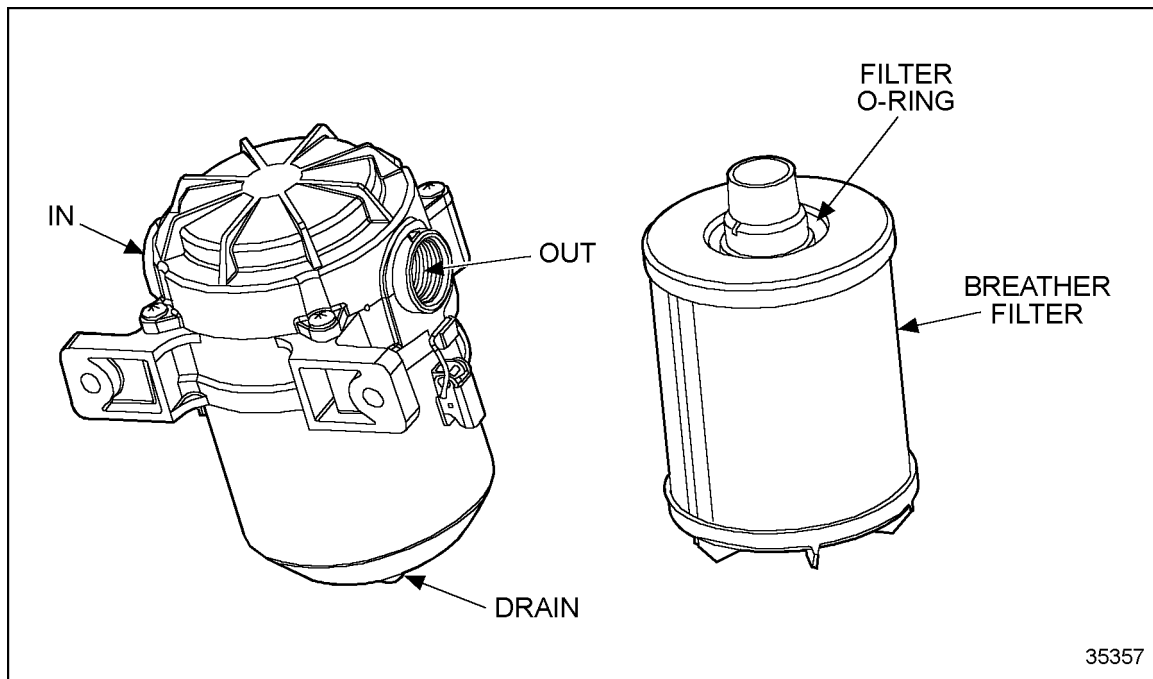

Figure 6-11 Location of O-ring and Breather Filters
1. Insert new filter into the top of the assembly, ensuring the new filter contains the top O-ring. See Figure 6-11.